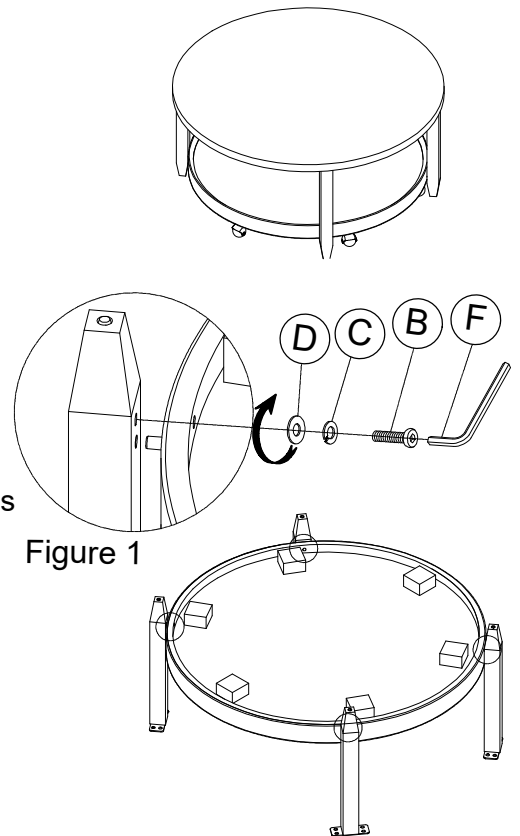

Figure 1
2. Attach bottom shelf to the legs using Bolt (B), Lock Washer(C), Flat Washer (D) and tighten all bolts using Allen Wrench (F).As shown in Figure 1 .